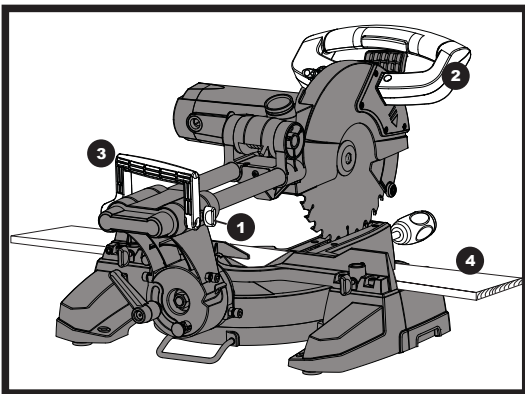

Fig 33
1) Unlock the carriage lock handle (1) and allow the cutting head assembly to move freely.
4) Grasp the switch handle (2) and pull the carriage (3) forward until the centre of the saw blade is over the front of the workpiece (4).
8) Release the trigger and allow the blade to stop spinning before allowing the cutting head to raise to its upper position. (See fig. 33)